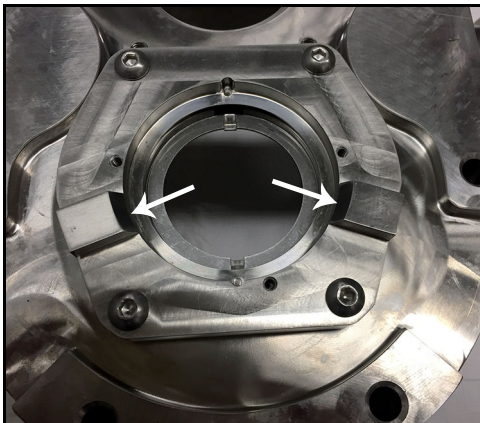

Figure 92 - Seal housing installed
11. Figure 92 shows the seal housing installed. Note the orientation of the flush ports (arrows).